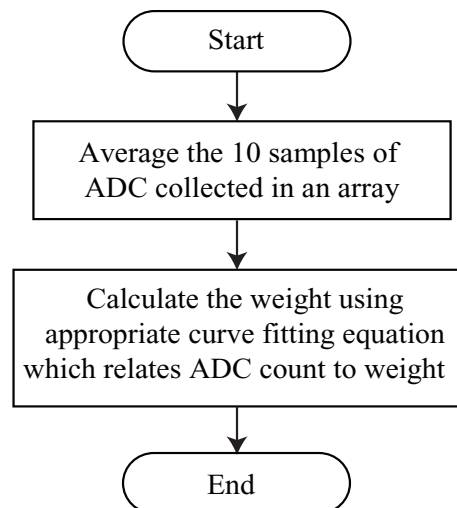

Figure 6. Weight Calculation Routine
- Weight Calculation Routine (Figure 6)